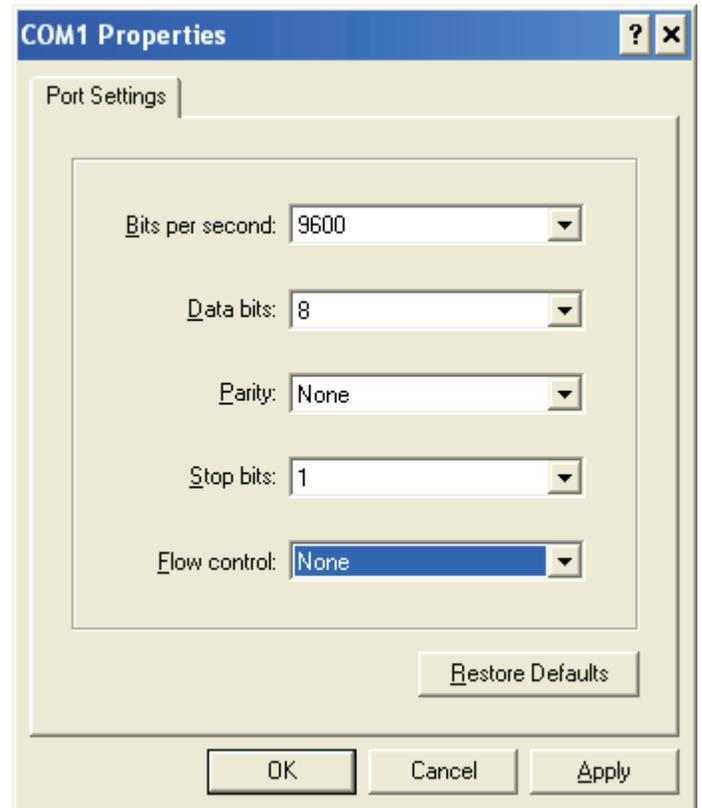

FIGURE 4-5. PORT SETTINGS
6. Assign the following communications port settings (see Figure 4-5):